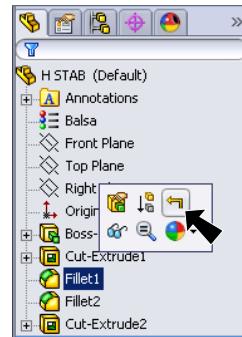

Fig. 42
Step 2. Roll the rollback bar to below the **Cut-Extrude1**. To rollback, click **Fillet1** in the Feature Manager and click **Rollback**  from the Content toolbar, **Fig. 42**.